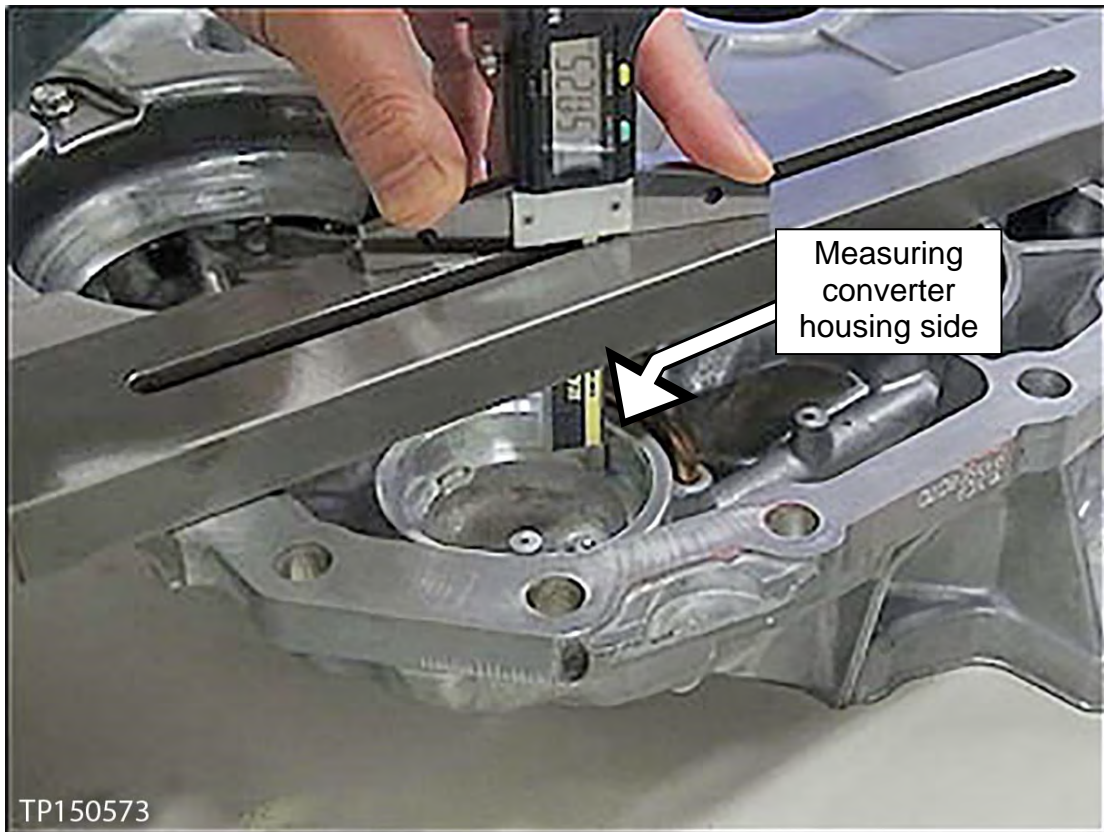

Figure 21
10. Perform step 2-9 on the converter housing’s outer race bore (see Figure 21).